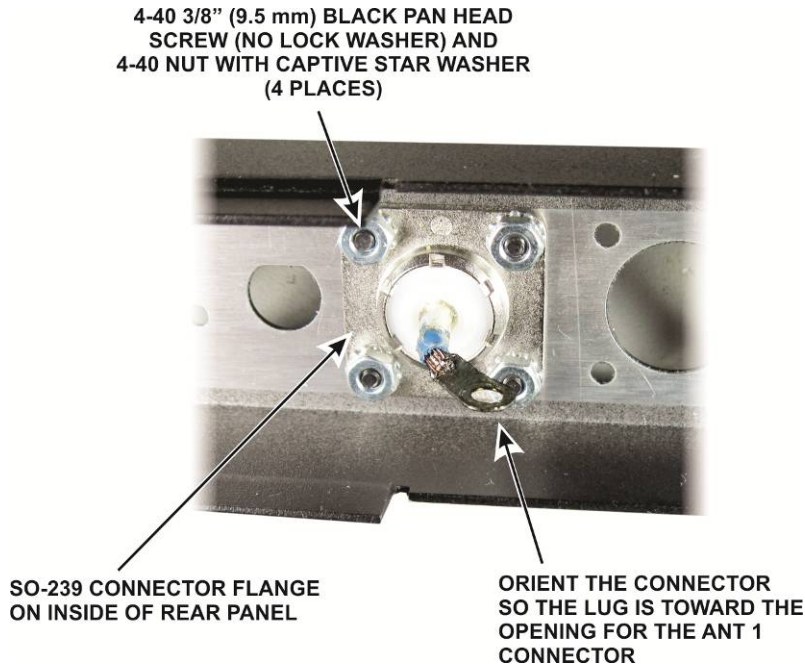

Figure 23. Installing the XMTR SO-239 Connector in the Rear Panel.
- Install the XMTR SO-239 connector in the rear panel opening marked XMTR as shown in Figure 23. Take care not to bend the wire or move the solder lug. Place the flange of the connector inside the rear